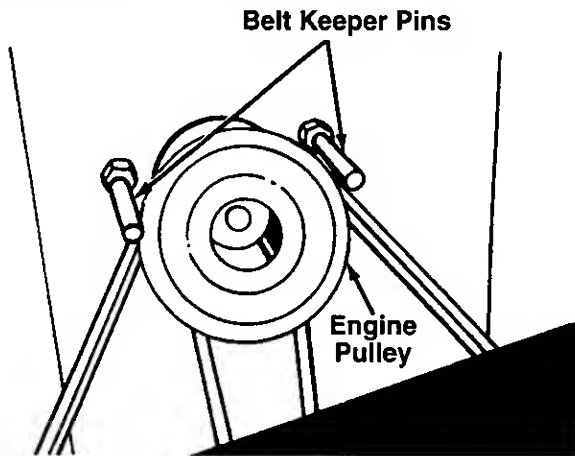

FIGURE 18.
NOTE: Figures 18, 22 and 23 are shown with the unit tipped up for clarity. It is not necessary to tip the unit to remove the belts.
NOTE: When reassembling, make certain belt keeper pins are assembled in the same locations from which they were removed. See figure 18.
4. Remove the belt keeper pins from the lower frame. See figure 18.
3. Remove the belt keeper pins from the engine pulley belt guard. Refer to figure 18.
NOTE: Make certain belt keeper pins are reassembled as shown in figure 18.